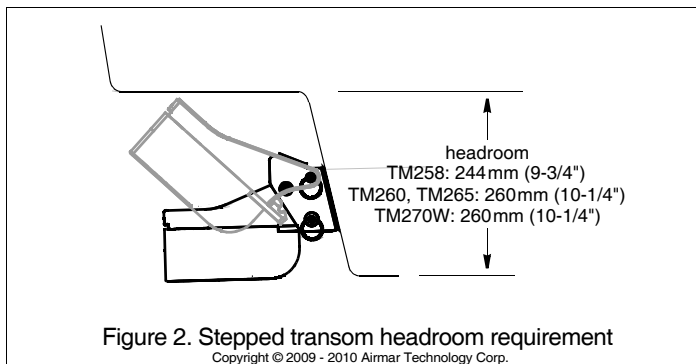

Figure 2. Stepped transom headroom requirement
- **Stepped transom**—Mount the transducer on the lowest step being sure there is enough headroom for the bracket to release (see Figure 2).